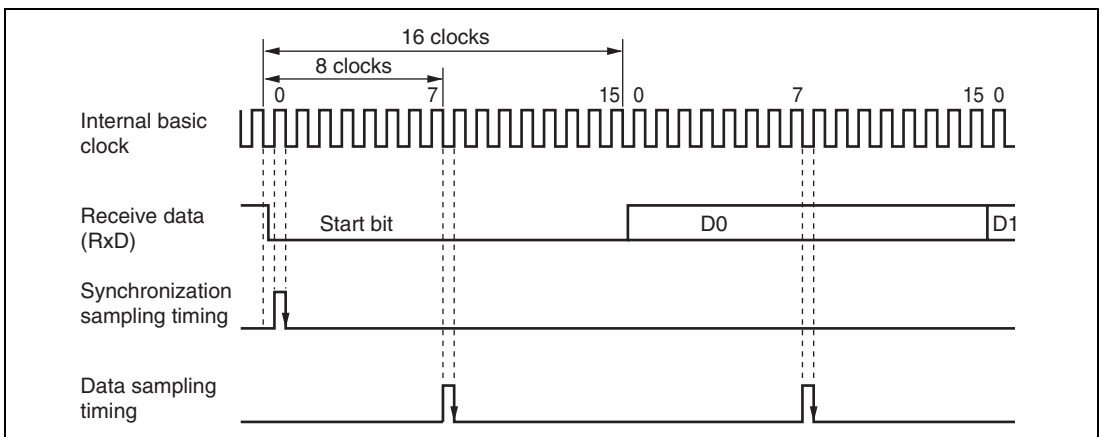

Figure 14.3 Receive Data Sampling Timing in Asynchronous Mode
In asynchronous mode, the SCI operates on a basic clock with a frequency of 16 times the transfer rate. In reception, the SCI samples the falling edge of the start bit using the basic clock, and performs internal synchronization. Receive data is latched internally at the rising edge of the 8th pulse of the basic clock as shown in figure 14.3. Thus, the reception margin in asynchronous mode is given by formula (1) below.